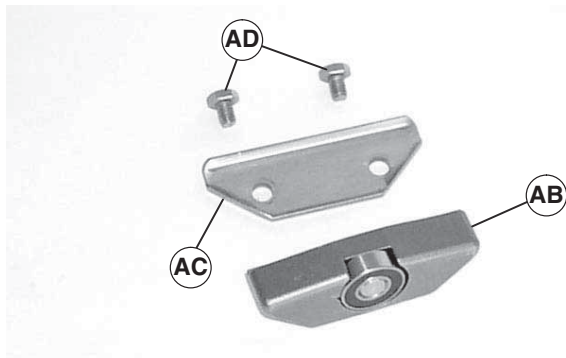

Figure 11
- Return roller components (Figure 11).